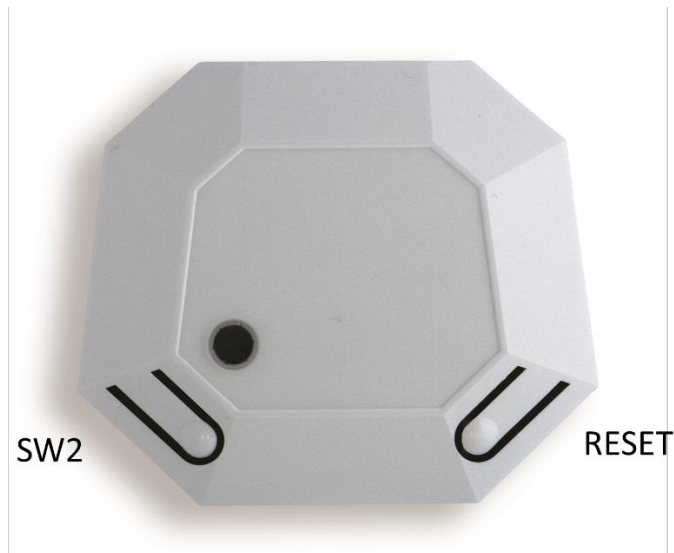

Figure 15: C209 with cover and buttons indicated
3. Press and hold the SW2 button on the C209 while resetting the board (by inserting the USB cable or clicking the RESET button) to set the bootloader in “download” mode. See also Figure 15.